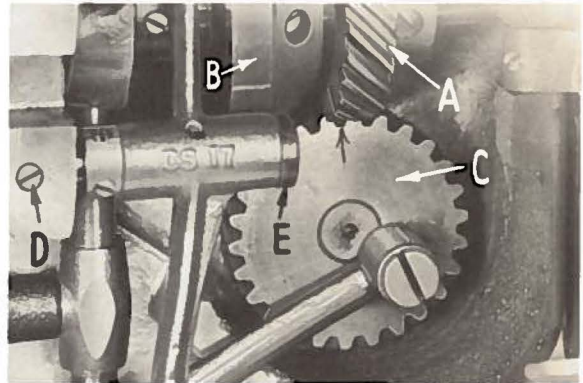
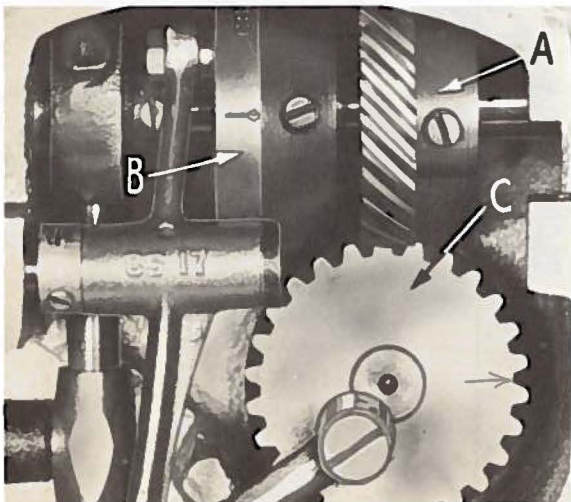
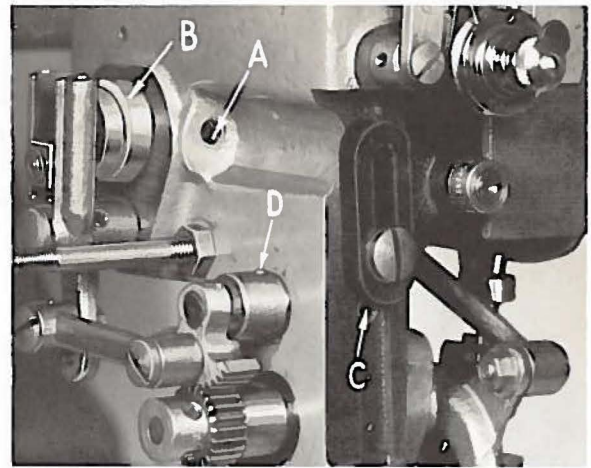

Fig. 4
Fig. 5
Fig. 6
The main shaft drive gear (A, Fig. 4) and the looper cam (B) are spotted on the main shaft. Therefore, the arrow on the hub of the looper cam and on the right side of the drive gear should be in line. The timing is correct if the arrow on gear (C) points to the line on the left side of drive gear (A), or as the handwheel is turned in the operating direction this same arrow is in line with the arrow on the right side of gear (A). To check for proper timing, open front cover and turn handwheel in operating direction until the spot screw (the second screw around as the handwheel is
turned in operating direction) in the looper cam (B, Fig. 5) is toward the front. The arrow on the cam will then be in a horizontal position pointing to the right. At this time the arrow on gear (C) should coincide with the arrow on the cam at a position pointing slightly above horizontal as in Fig. 5. If adjustment is necessary, loosen the two screws in drive gear (A) and slide gear to the right until the gears no longer mesh. Turn handwheel in operating direction until the spot in looper cam is to the front. Do not turn the handwheel after the spot is in this position. Now, turn gear (C) until the arrow points to the right and is slightly above a horizontal position. Slide drive gear (A) to the left so the gear teeth mesh and the spot screw lines up with the spot on the main shaft. Retighten the screws. Now, check alignment of the arrows on gears (A and C, Fig. 4). If the arrows do not line up, slide gear (A) to the right once again and turn gear (C) to the left or right as required. Reposition gear (A) so spot screw lines up with the spot on the main shaft and again check the arrow alignment. Repeat this procedure until arrows line up and the spot screw is in line with spot on main shaft, then tighten spot screw and set the screw in drive gear (A).
It may also be necessary to remove any play or bind that may have developed between gears (A and C, Fig. 5) as a result of normal wear or replacement. To remove any bind or excess play, loosen set screw (A, Fig. 6) and turn bushing (B) in the required direction by inserting a screwdriver in the oil hole on top of the shaft. Tighten screw. Turn the handwheel in operating direction to be sure the machine does not bind.
To adjust the looper spreader mechanism to the right or left, loosen the set screw (D, Fig. 4) and slide the stud (E) in the required direction. Retighten the screw (D). To adjust the looper spreader